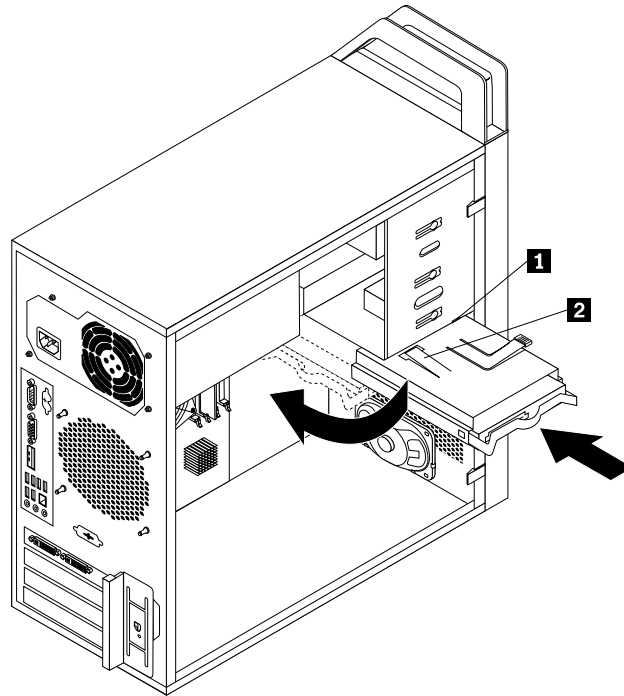

Figure 28. Installing the primary hard disk drive
11. Align the pivot pin on the hard disk drive cage with the slot **1** in the upper drive cage, as shown in Installing the primary hard disk drive Figure 28 on page 93. Then, slide the drive cage with the new hard disk drive into the chassis.